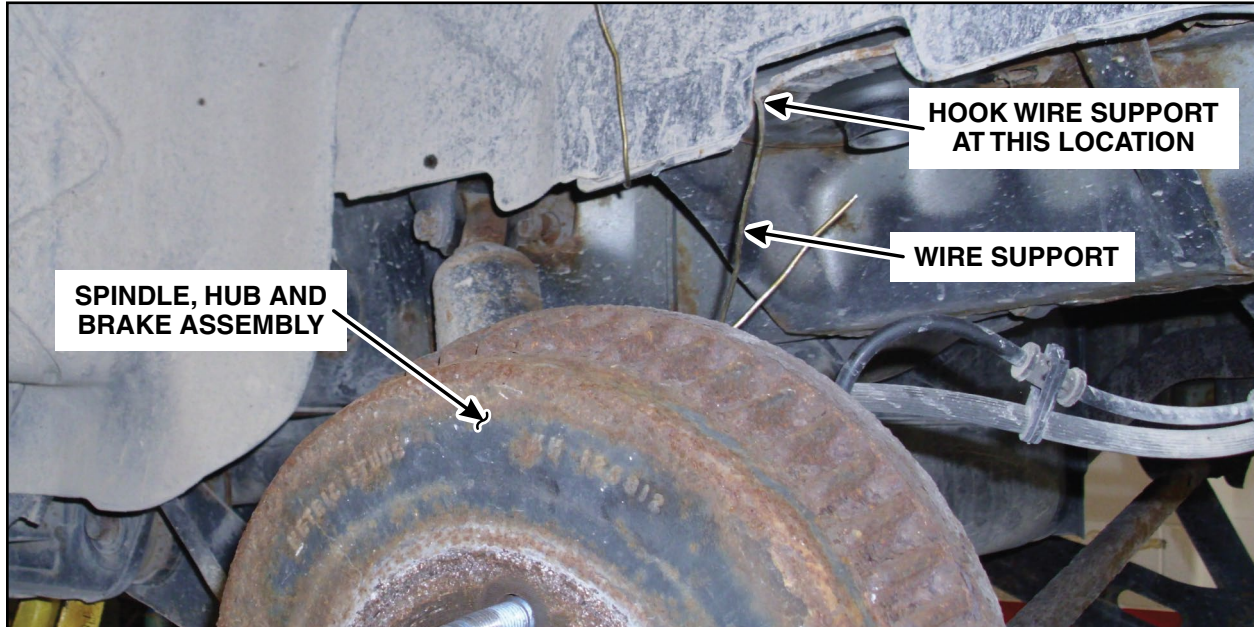

FIGURE 7
Position the spindle, hub and brake assemblies aside. *See Figure 7.*
14. Position the spindle, hub and brake assemblies in place. *See Figure 7.*